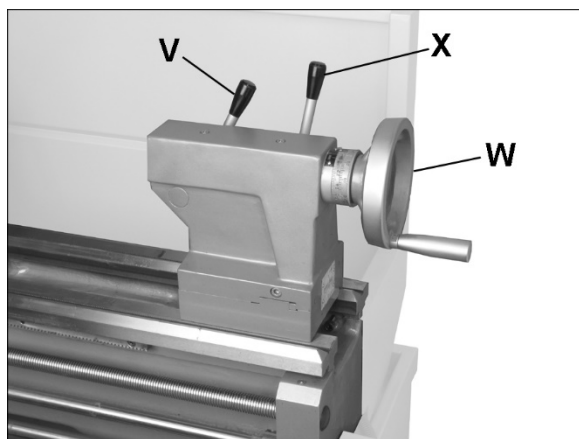

Figure 9-4
17. **Tailstock Quill Lock** (V, Figure 9-4): Push clockwise to lock sleeve; counterclockwise to unlock.
18. **Tailstock Quill Traverse Handwheel** (W, Figure 9-4): Rotate clockwise to advance quill; counterclockwise to retract. Fully retract quill to eject a center or drill chuck.
19. **Tailstock Clamping Lever** (X, Figure 9-4): Push up to lock; down to unlock.